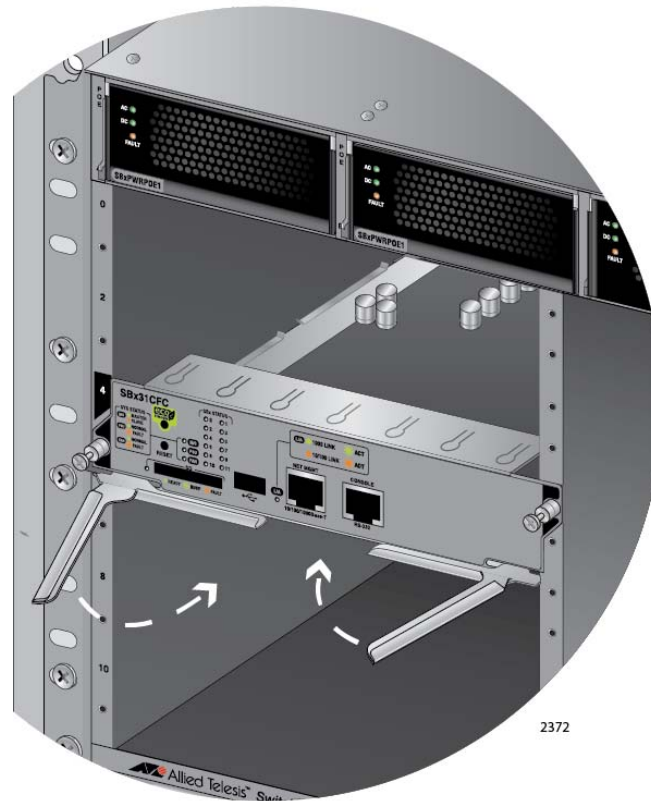

Figure 71. Closing the Locking Levers on the AT-SBx31CFC Controller Fabric Card
8. When you feel the card make contact with the connector on the backplane of the chassis, carefully close the two locking levers on the front panel of the controller card to secure it in the chassis. Refer to Figure 71 on page 134.